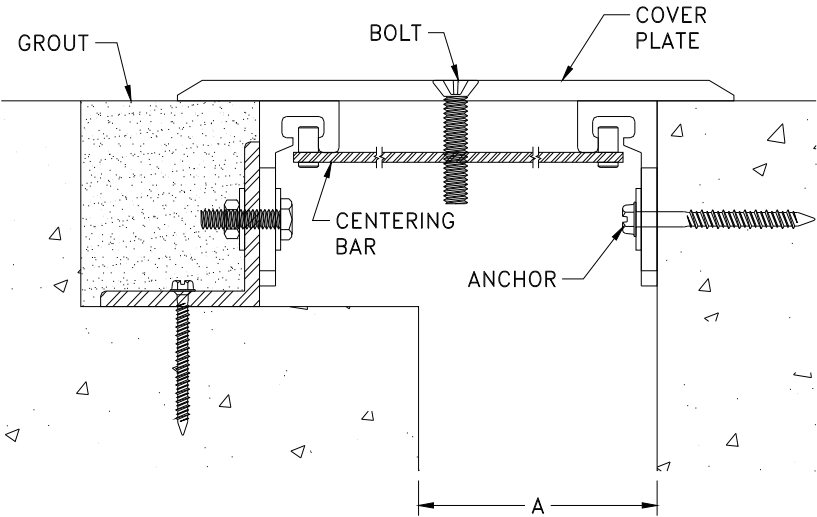

Figure 16
- STEP 26.** Put the cover plate, with centering bars attached, into position over the joint. Tighten the centering bar bolts by hand until the centering bars are firmly held in place (see Figure 16). Do not overtighten the centering bar bolts. The installation of the floor-to-floor system is complete.